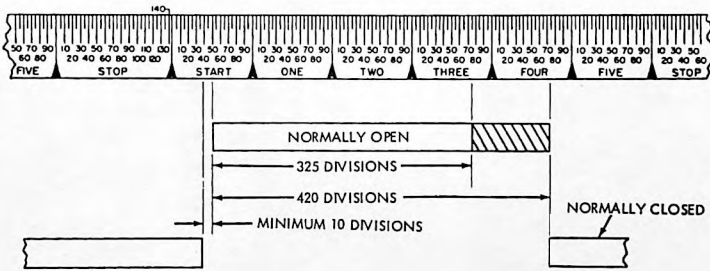

FIGURE 3. PROBE (Y) CONTACT
- (b) Requirements (See Figure 3)